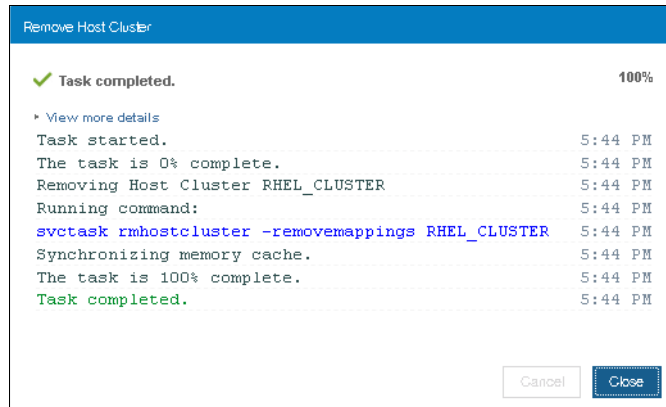

Figure 5-112 Host Cluster deletion task completed
5. Click **Delete Host Cluster**. You will see a window indicating the task completed successfully as shown in Figure 5-112 on page 263.